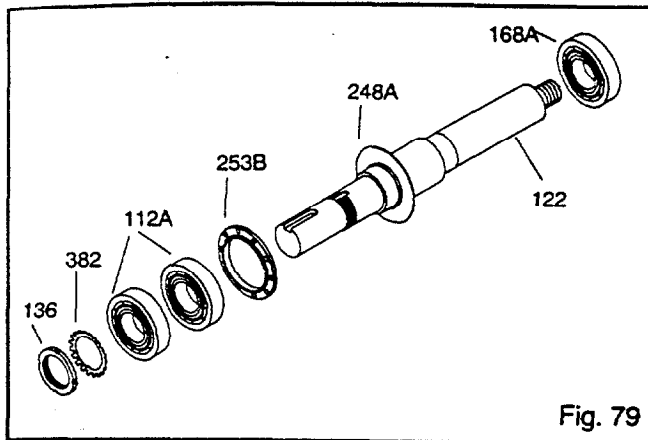

Fig. 79
2. Attach bearing frame foot (241) with bolts (370F). Hand tighten.
3. Install oil flinger (248A) on shaft (122) if removed (Fig. 79).